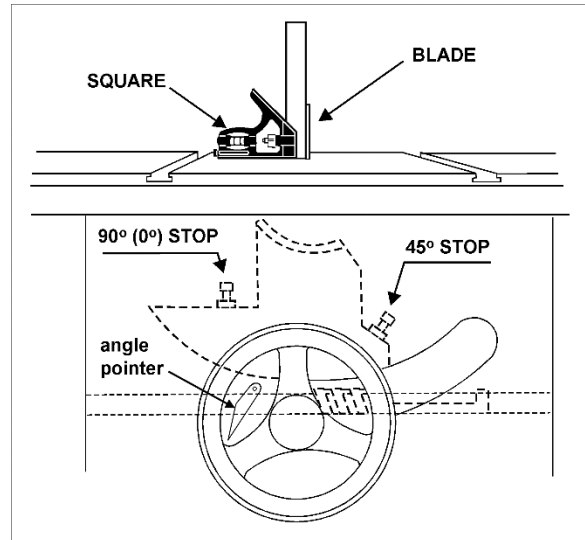

Figure 8-5
- If adjustment is required, loosen nut on 90° stop screw (Figure 8-5) with 13mm wrench, and turn screw to proper height. Verify setting and retighten nut against trunnion.
- Check pointer position on scale (Figure 8-5). If needed, loosen screw and adjust pointer to zero. Retighten screw.
Adjust 45° stop shown in Figure 8-5. Confirm setting, then retighten nut.